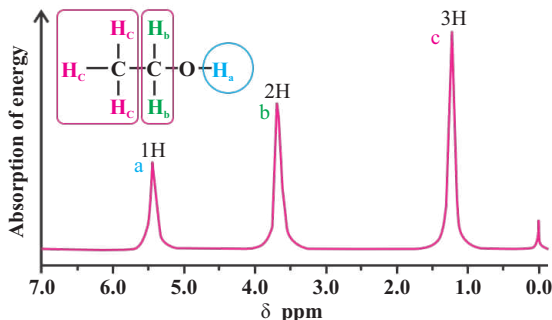

Figure 30.4 Low-resolution ¹H NMR spectrum of ethanol
Low-resolution ^1H NMR spectrum of ethanol ($\text{CH}_3\text{CH}_2\text{OH}$) has been illustrated in **Figure 30.4**. The spectrum has three peaks which shows that there are three different proton environments in ethanol molecule *i.e.*, the CH_3 protons, the CH_2 protons, and the OH proton.
Chemical shift of each peak corresponds to the type of chemical environment of protons giving rise to that peak. The type of proton environment can be identified by comparing the chemical shifts to standard values (**Table 30.1**). In the spectrum of ethanol (**Figure 30.4**), the peak at 5.4 ppm represents the presence of electrons in less electron density environment (OH). The peak having chemical shift 3.7 ppm can be identified as $-\text{CH}_2-$ next to oxygen while the signal at 1.2 ppm can be identified as methyl group ($-\text{CH}_3$ protons).
In the ^1H NMR spectrum of ethanol (**Figure 30.4**), peaks are labeled 1H, 2H and 3H to show relative peak areas in 1:2:3 ratio. This ratio matches with the number of protons in each environment ($-\text{OH}$ has 1, $-\text{CH}_2$ has 2 and $-\text{CH}_3$ has 3 protons). Analysis of the above spectrum shows that there are three kinds of chemical environments for protons, so three signals are observed. The intensity ratio shows that they are present in the ratio of 1:2:3. **The sum of number of each type of protons gives the total number of protons present in the molecule.** Hence, there are total 6 hydrogen (1+2+3) atoms in an ethanol molecule.